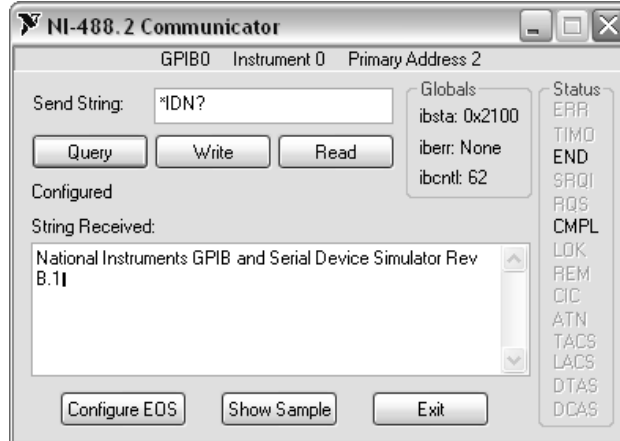

Figure 9-5. Communication with the GPIB instrument
- Enter `*IDN?` in **Send String** and click the **Query** button. The instrument returns its make and model number in **String Received** as shown in Figure 9-5. You can use this window to debug instrument problems or to verify that specific commands work as described in the instrument documentation.